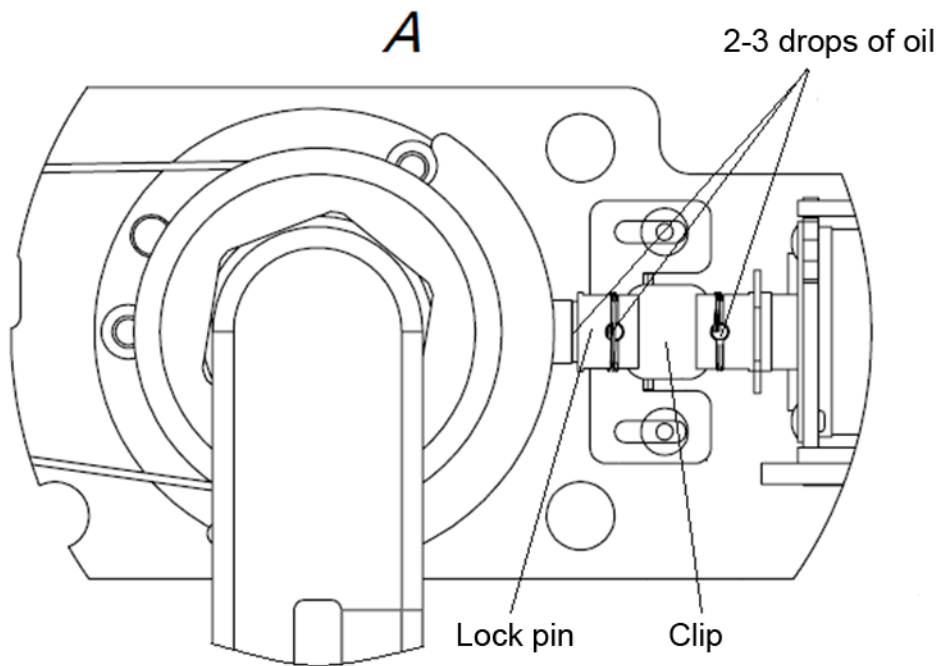

Fig. 5 Speedgate housing
5.2. Clips and lock pin between the lock and actuating device should be lubricated (Fig. 5, type A).